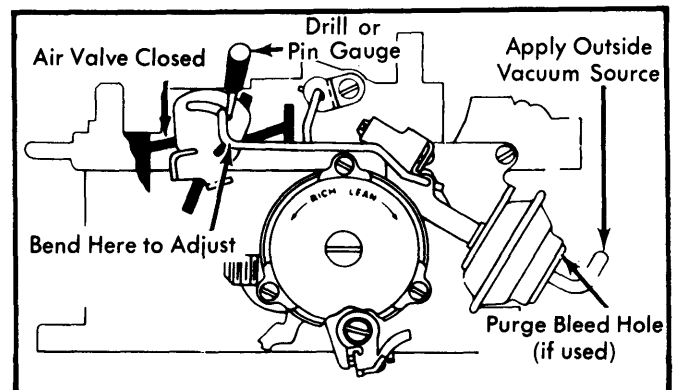

Fig. 6 Adjusting Air Valve Rod — Front
1) Using an outside vacuum source, seat primary (front) choke vacuum break diaphragm. Plug purge bleed hole (if equipped) with masking tape. Hole is found in end of diaphragm. See Fig. 6.